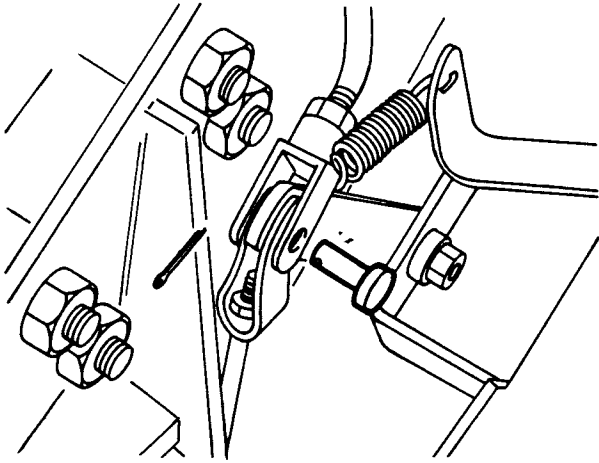

Fig H1.10
- (9) Refer to Fig H1.10. Reconnect the handbrake expander rod.